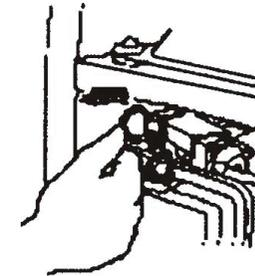

Figure 26
- 6.9 Once the engine is started, set the choke lever to ON position. (Figure 26)